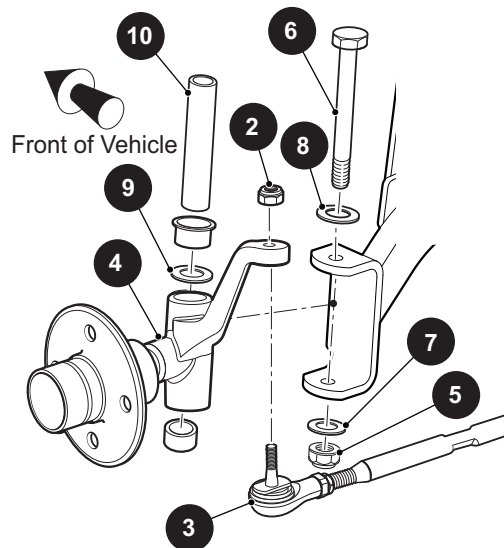

Figure 16 Spindle Replacement
- To remove the tie rod, loosen the lock nut (2) until the tie rod ball joint (3) threads are protected (Figure 16). Using a ball joint separator as a lever, apply pressure to the ball joint and tap the nut with a plastic faced hammer to release the tie rod from the spindle arm (4). Remove the nut from the tie rod and tie rod from the spindle arm.
- Remove lock nut (5) and washer (7) from the bolt (6). Discard the nut (5). Pull bolt (6) and washer (8) from the spindle and separate the spindle from the axle. Remove the thrust washer (9) and the king pin tube (10) from the spindle.